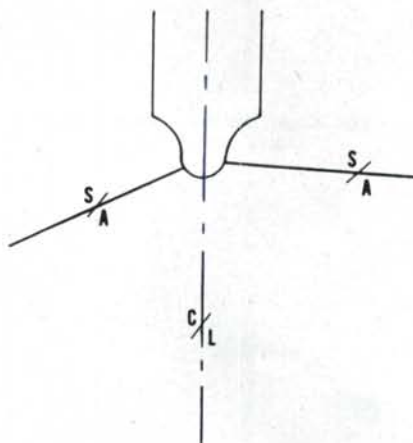

Fig. 125—Nozzle spray pattern is not symmetrical with centerline of nozzle tip.
**NOTE:** Spray pattern is not symmetrical with centerline of nozzle tip; refer to Fig. 125.